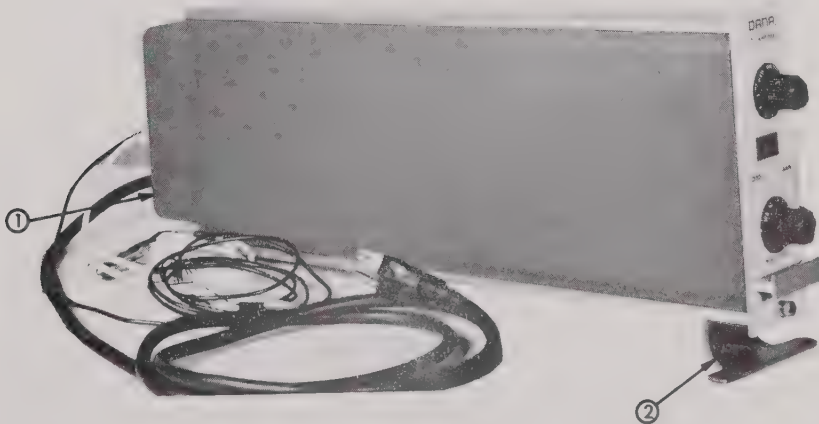

Figure 1.3 - Amplifier Accessories
An Adapter Set Model 2801 (Dana part number 402468) and an Amplifier Support Bracket (Dana part number 452411) are used when the amplifier is operated on the bench. The Adapter Set (item 1 in Figure 1.3) contains input leads, output leads, and the power cord. The Amplifier Support Bracket (item 2 in Figure 1.3) mounts to the amplifier to support the amplifier in an upright position.